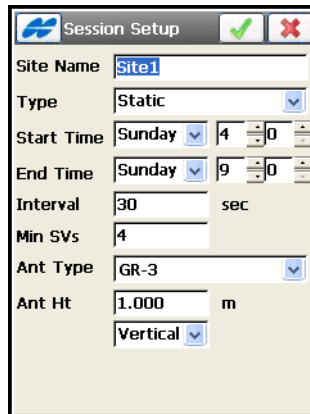

Figure 6-34. Session Setup
2. On the *Session Setup* screen (Figure 6-34), enter or select session settings parameters.